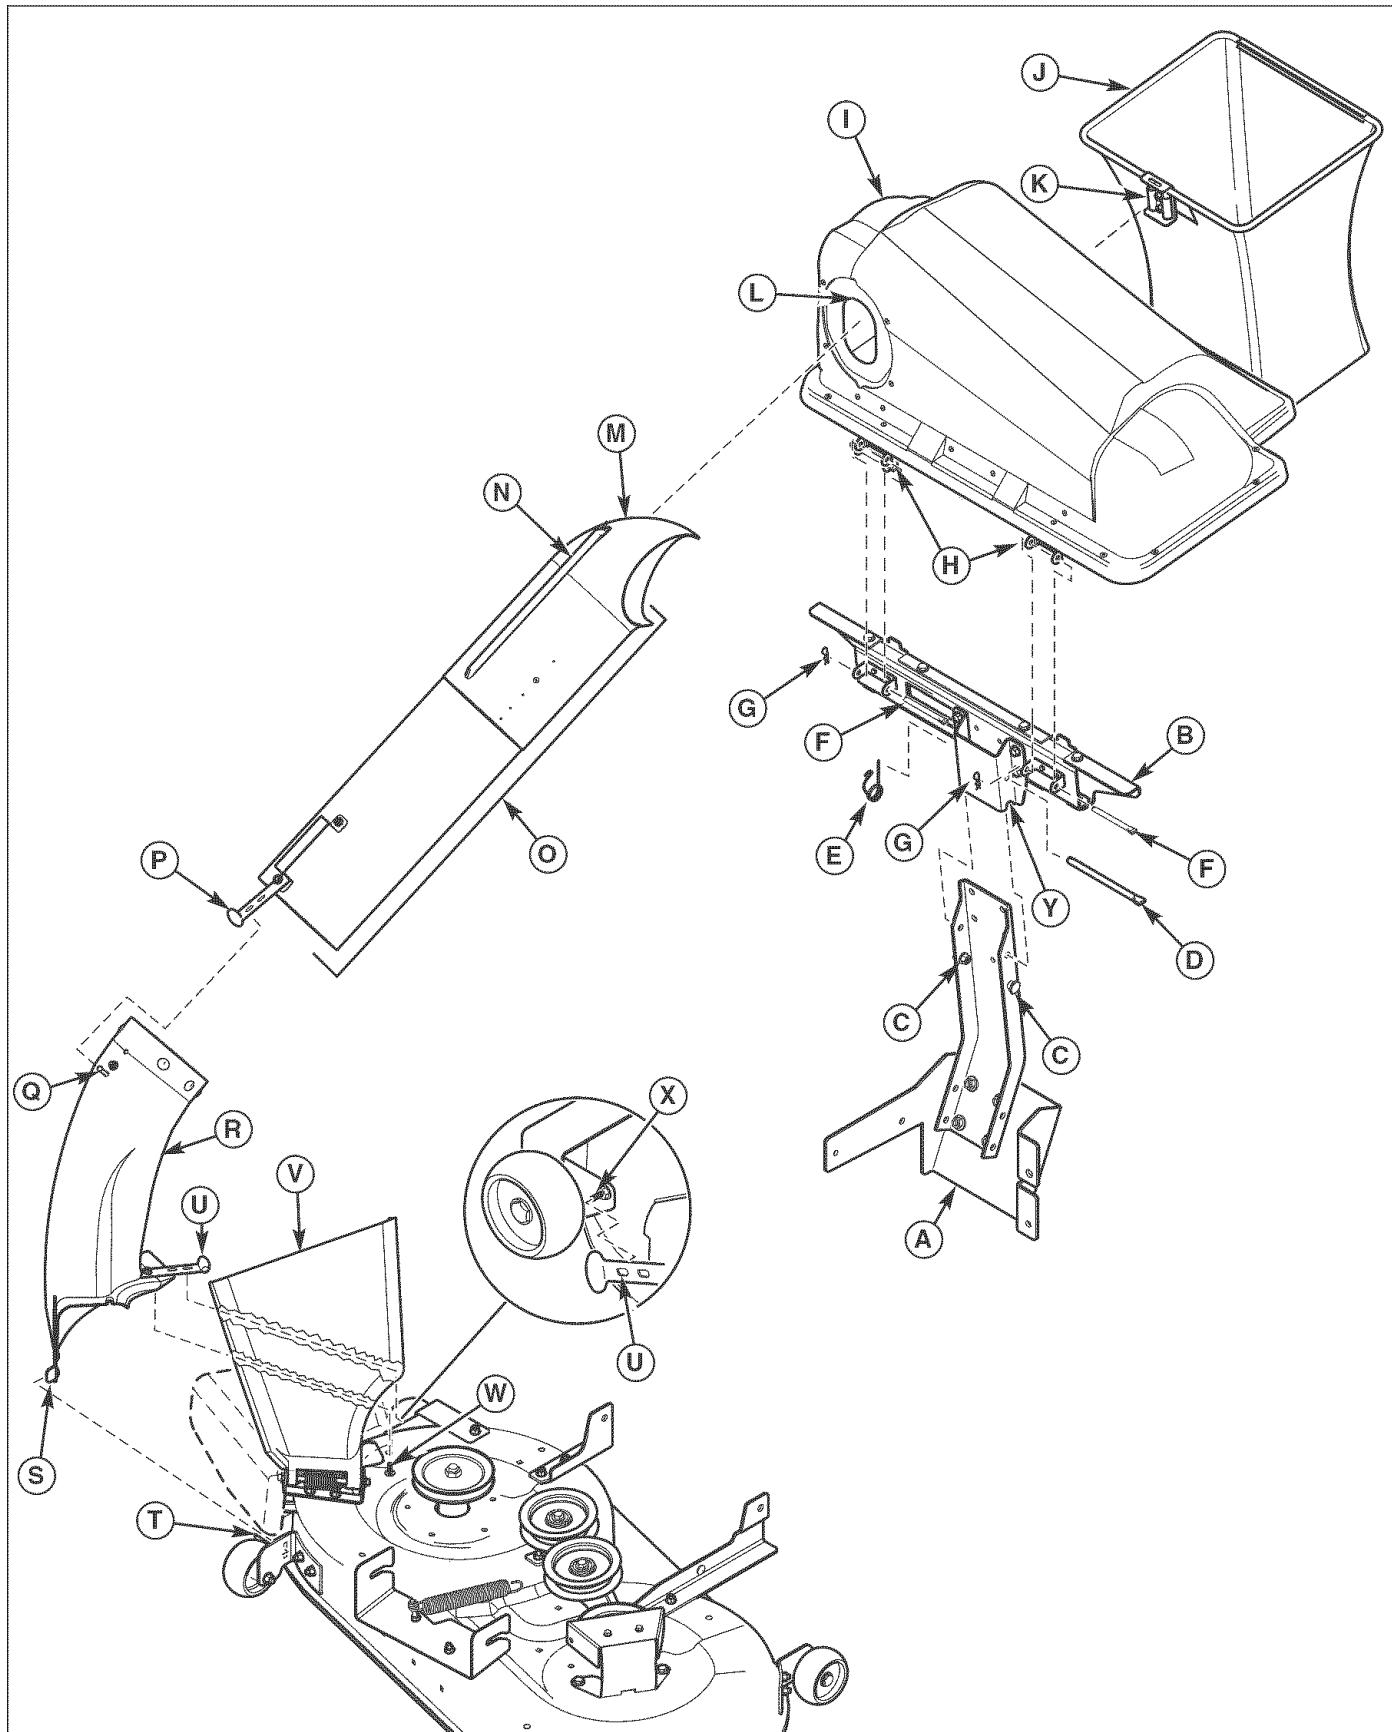

Figure 15. Normal Installation & Removal
Figure 15 continued...
1. Attach bag and cover support assembly (B, Figure 15) to hitch support assembly (A) by sliding the support mount (Y) into place until full contact is made with the shoulder bolts (C).
2. Insert mount pin (D) through support mount (Y) and upright of hitch assembly (A).
3. Secure mount pin (D) with retainer spring (E).
4. Attach cover assembly (I) to bag support assembly (B) using cover hinges pivots (H). Secure cover assembly (I) to bag support bracket (B) using hinge pins (F) and retainer springs (G).
6. Lift discharge deflector (V, Figure 15) up, and insert front latch plate (S) into front latch plate mount (T).
7. Swing lower chute (R) into place below discharge deflector (V) placing hole in lower chute over carriage bolt (W).
8. Stretch rubber strap (U) down to the rear latch plate mount bolt (X) attaching the first hole in the rubber strap over the mount bolt.
9. Slide upper tube (M) into cover (I) aligning ridge (N) with ridge cutout (L).
10. Slide tube assembly (O) over lower chute (R) securing tube assembly (O) to lower chute (R) using rubber strap (P) on tube assembly (O) to pin (Q) on lower chute (R).
1. Unhook rubber strap (P, Figure 15) from pin (Q), then remove tube assembly (O) from lower chute (R) and from cover (I).
2. Lift cover (I) and remove bags (J) from bag and cover support assembly (B).
5. Disconnect lower chute rubber strap (U, Figure 15) from rear latch plate mount bolt (X).
6. Lift up discharge deflector (V, Figure 15); remove lower chute (R) from carriage bolt (W), then remove front latch latch plate (S) from front latch mount (T).